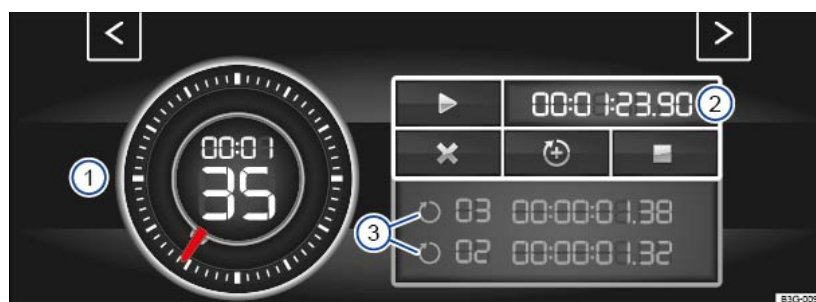
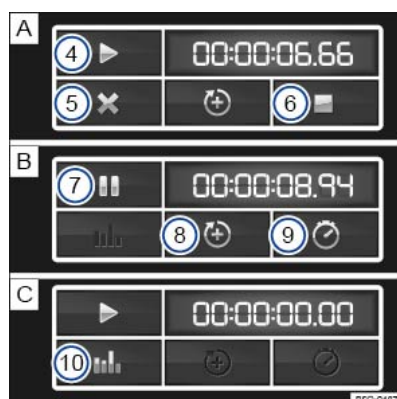

Fig. 28 On the Infotainment system display: lap timer with stopwatch, function button and lap times.
Fig. 29 Function button on the Infotainment system display: time measurement for paused, current and completed lap.
Key to ⇒ Fig. 28 and ⇒ Fig. 29 :
You can change between the lap timer and performance monitor at any time using the arrow buttons ⇒ *Fig. 27- 2-* and ⇒ *Fig. 28*.
Start or continue time measurement	Touch the function button to start or continue ► ⇒ Fig. 29 A ④ .
End time measurement	Touch the function button to end measurement ■ ⇒ Fig. 29 A ⑥ .
Pause time measurement	Touch the function button to pause measurement ■■ ⇒ Fig. 29 B ⑦ .
Start new lap	Touch the function button to add a new lap ⇒ Fig. 29 B ⑧ . The last lap time is stored and a new lap starts. The overall time of the laps driven is shown in the statistics.
Cancel current lap	Touch the function button to cancel the current lap ⇒ Fig. 29 A ⑤ .
Display intermediate time	Touch the function button for the intermediate time ⏸ ⇒ Fig. 29 B ⑨ . The stopwatch ⇒ Fig. 28 ① stops for a few seconds and the intermediate time is displayed.
Display statistics	After ending or cancelling time measurement, touch the function button for the statistics ⇒ Fig. 29 C ⑩ .
Reset data in the statistics	Touch the function button for statistics ⇒ Fig. 29 C ⑩ . Delete the data by touching the Reset function button.